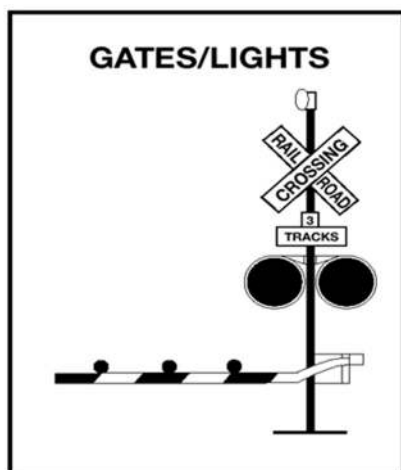

Figure 2.18
**Flashing Red Light Signals.** At many highway-rail grade crossings, the cross-buck sign has flashing red lights and bells. When the lights begin to flash, stop! A train is approaching. You are required to yield the right-of-way to the train. If there is more than one track, make sure all tracks are clear before crossing. See Figure 2.18.
**Gates.** Many railroad-highway crossings have gates with flashing red lights and bells. Stop when the lights begin to flash and before the gate lowers across the road lane. Remain stopped until the gates go up and the lights have stopped flashing. Proceed when it is safe. See Figure 2.18.